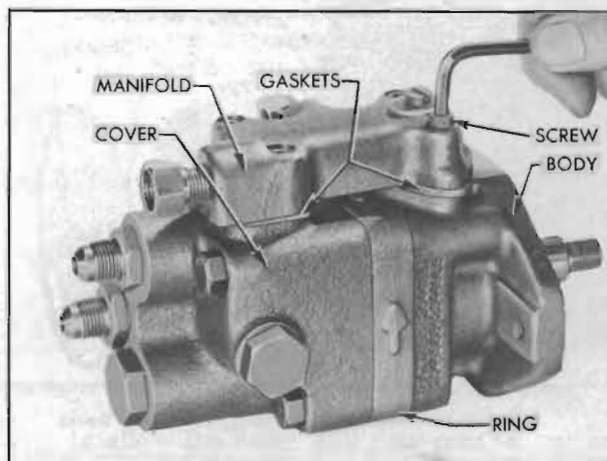

Figure 7-38—Vickers Pump—Removing Manifold
2. Remove manifold and two gaskets, using $\frac{3}{16}$ " hex (Allen) wrench (fig. 7-38), then remove bolts and separate the cover from pump body.